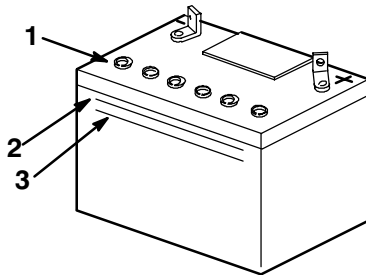

Figure 5
2. Remove the vent caps from the battery. Slowly pour electrolyte into each battery cell until the electrolyte level is up to the Upper line on the battery case (Fig. 5).
3. Wait five to ten minutes after filling the battery cells. Add electrolyte, if necessary, until the electrolyte level is up to the Upper line (Fig. 5) on the battery case.